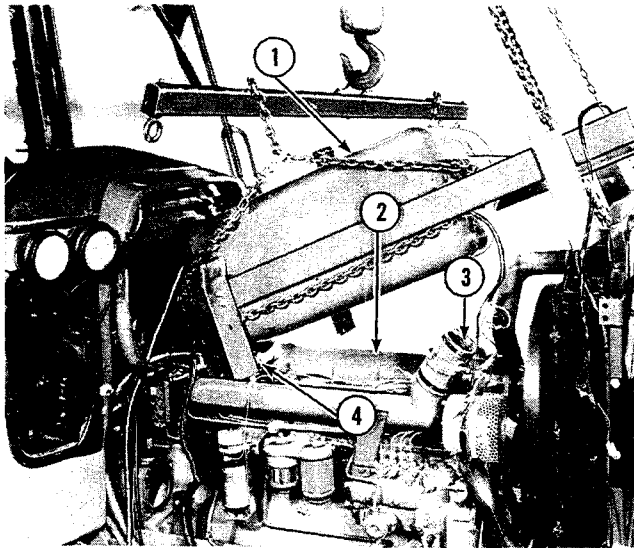

Figure 4
7. Using a sling, remove the fuel tank and brackets from the tractor, Figure 4.